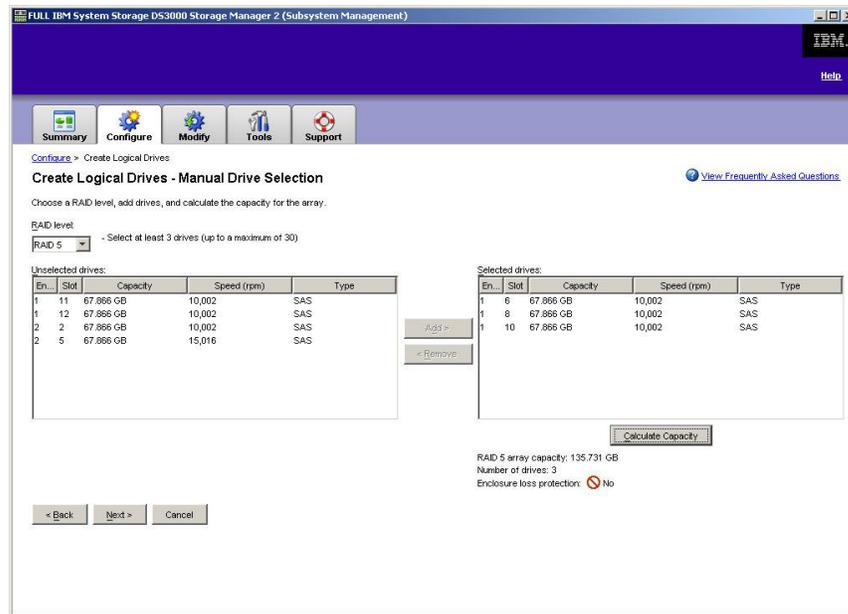

Figure 21. Manual drive selection area
- When the **Manual Drive Selection** area is displayed, as shown in Figure 21 on page 77, select the RAID level. Select the drives from the **Unselected drives** area and click **Add** to move the drives to the **Selected drives** area. In the **Selected drives** area, click **Calculate Capacity**, and then click **Next**.